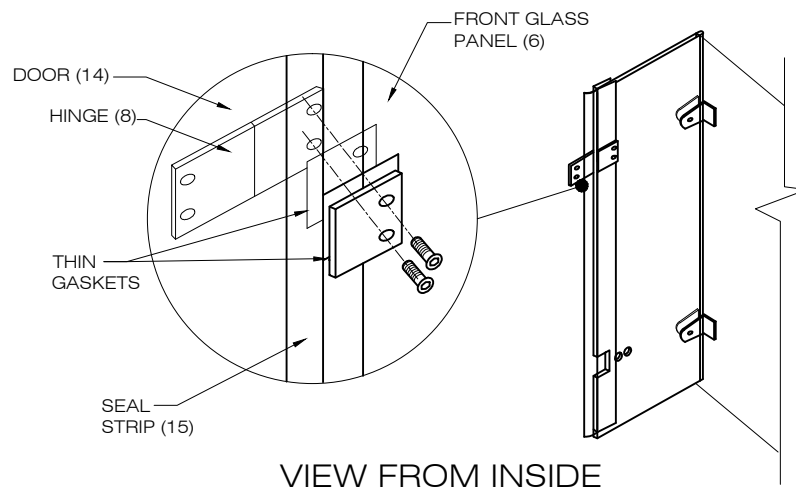
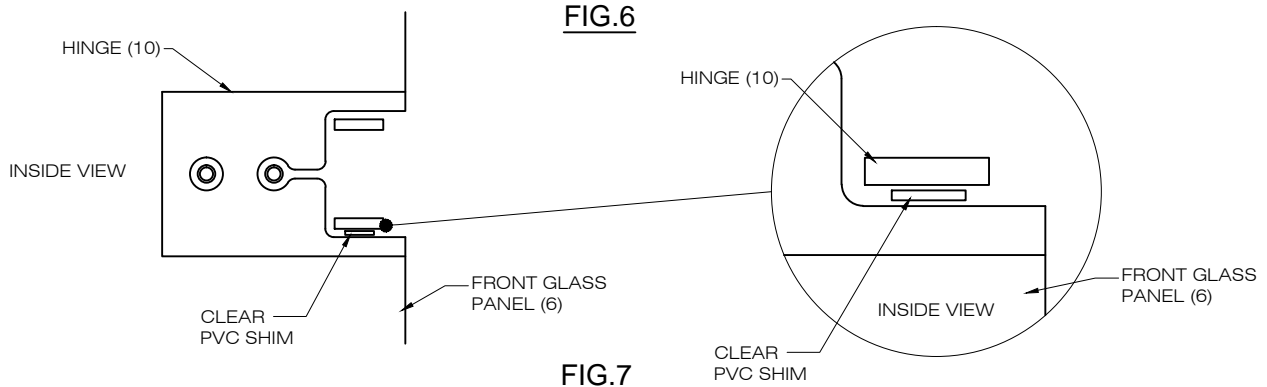

FIG.6
FIG.7
2. Place gaskets on each side of the front glass panel (#6). Position hinges on the front glass panel (#6). [SEE FIG.6] Place shim(s) as needed between the glass and the hinge on the bottom. The metal should not rest on the glass. [SEE FIG.7]